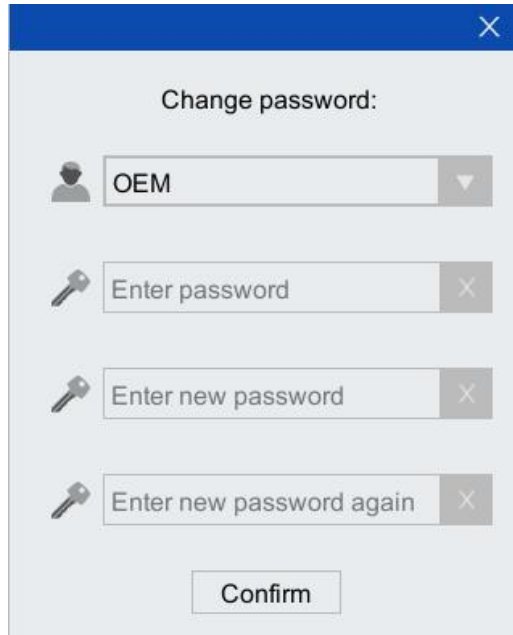

Figure 8-31 Modify password interface
Step1. On the main interface of the teach pendant, click "System > User and Password > Change Password" option, and the interface as shown in Figure 8-31 will pop up.